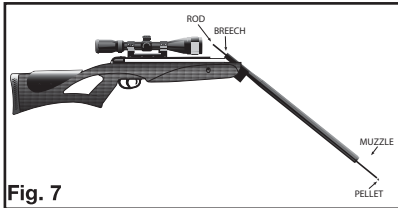

Fig. 7
- If it is jammed, insert a cleaning rod into the breech and push the jammed pellet out of the muzzle. Don't try to reuse that pellet (Fig. 7)